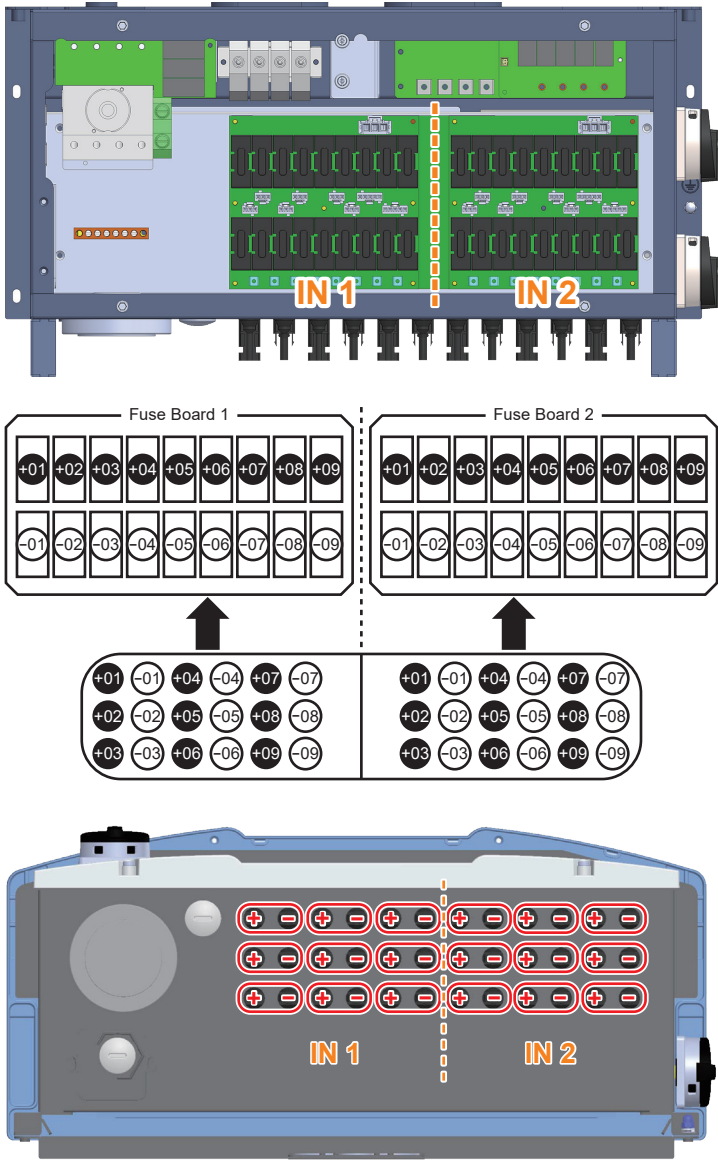

Figure 3-22: Wiring Box layout and Bottom view of inverter chassis showing location of MC4 connectors used to connect array wiring (DC) to M80/60U_122
- DC wiring polarities are divided into positive and negative, and the layout between the connectors and associated internal fuses is shown in **Figure 3-22**.